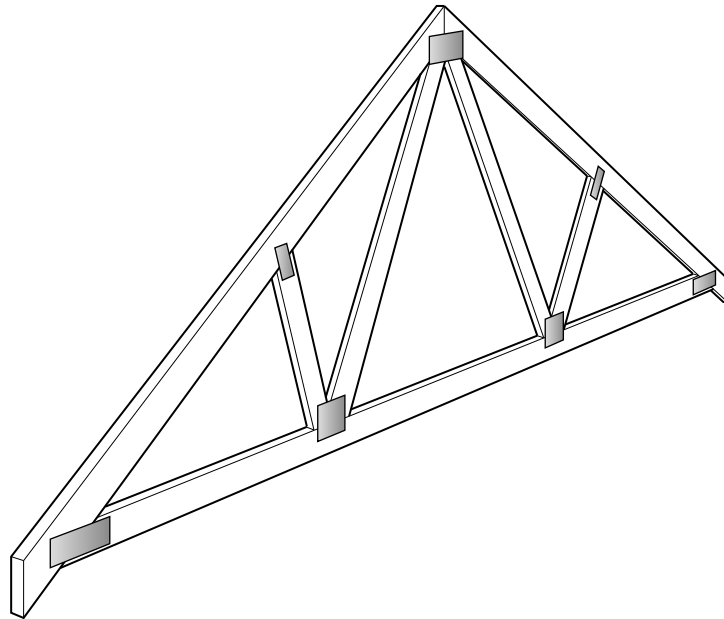

Fig. 1
Fig. 1 shows a pre-fabricated trussed rafter to be used as part of the roof structure of a house.
(a) Give **four** justified design requirements for a pre-fabricated trussed rafter of the type shown in Fig. 1.
- (e) (i) State a **suitable specific material** for the trussed rafter shown in Fig. 1.